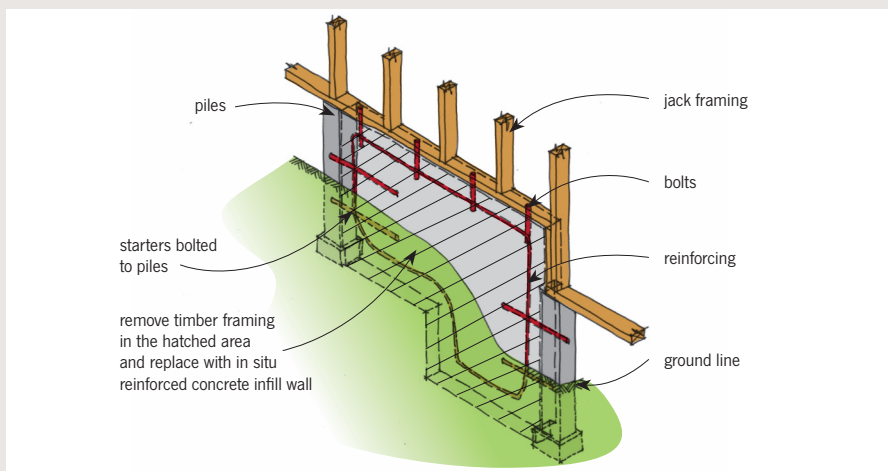

Figure 5: Jack studs on piles remedial work.
- construct a number of concrete walls between two existing piles, with starter bars fixed into the piles – to be effective, the length/height ratio of these walls should be greater than 1.5 (see Figure 5)